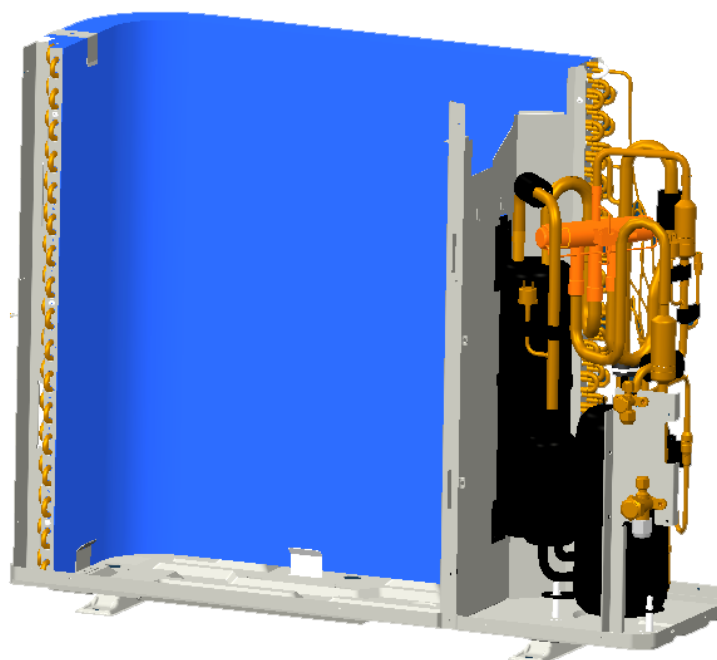

Fig.11
- Remove the 4-way valve. [See Fig.11]